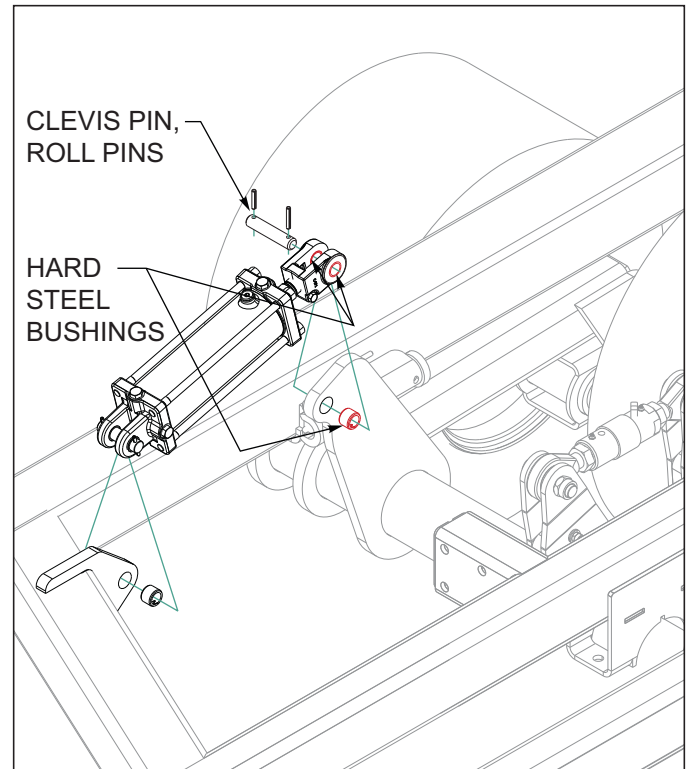

Figure 4-22: Lift Cylinder Pin and Bushings
*The hard steel bushings and pins in the rod end of the lift cylinders need checked for wear and replaced if needed See Figure 4-22.*